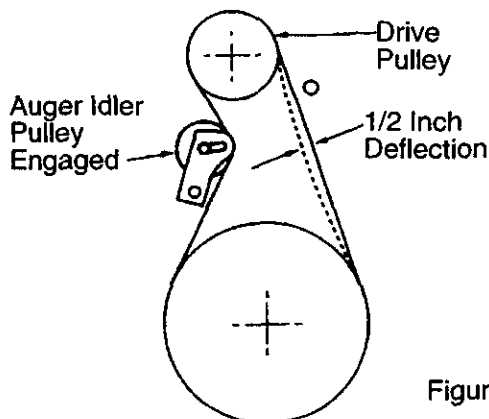

Figure 24
- Press the auger drive lever. Check the tension on the belt (opposite **auger idler pulley**). The belt should deflect about $1/2$ " with moderate pressure (See Figure 24).